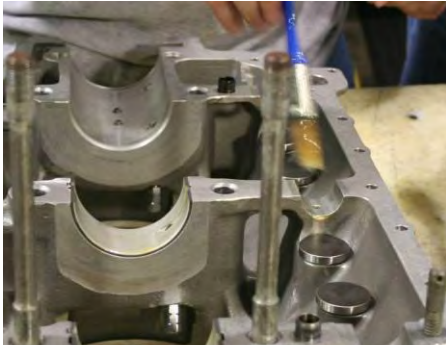

Figure 66
- Camshaft slots on each crankcase half (Figure 66).